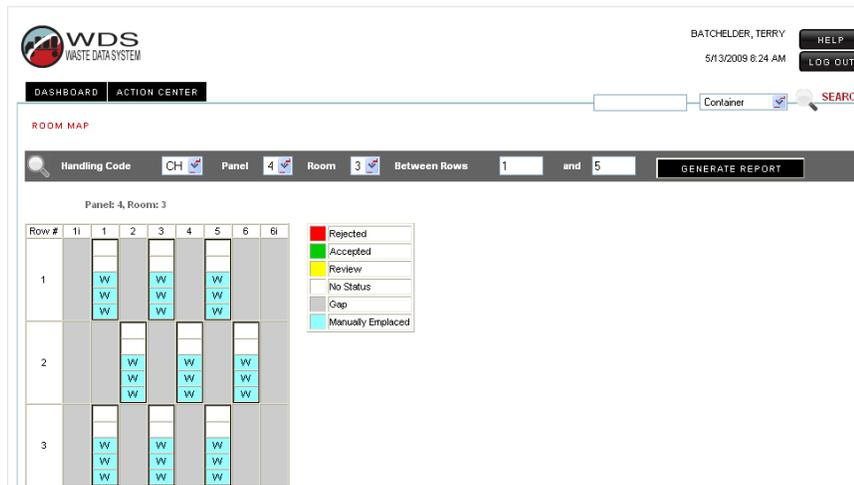

Figure 6-11 - Room Map
- 6.7.5 Select **Generate Report** as shown in Figure 6-11.